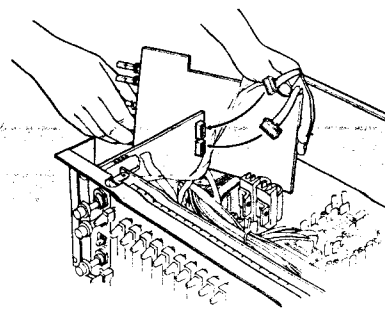

Fig. 7
5. Check the P.C.B. as shown in Fig. 7.